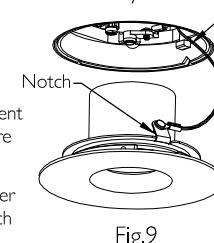

Fig.9
- 2c. Accent Pinhole and Downlight Pinhole: Align smaller notch in Trim Section with tab in Finishing Section (C3L085AP\_SERIES or C3L085\_DP\_SERIES) as shown in Fig. 9 and guide together until magnets engage.